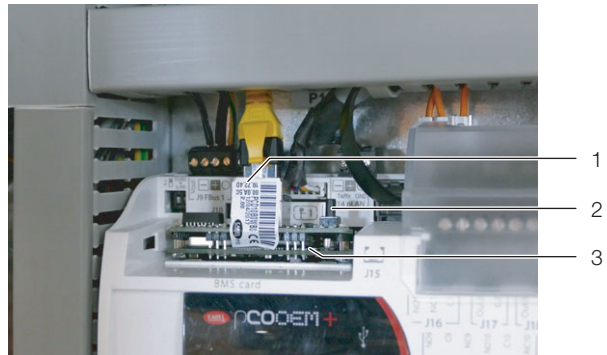

Fig. 38: pCO Web card
- Press the Reset button (fig. 38, item 2), if necessary with the assistance of a second person, and keep it held down for around 10 seconds whilst the card is booting up, until the status LED flashes three times slowly.